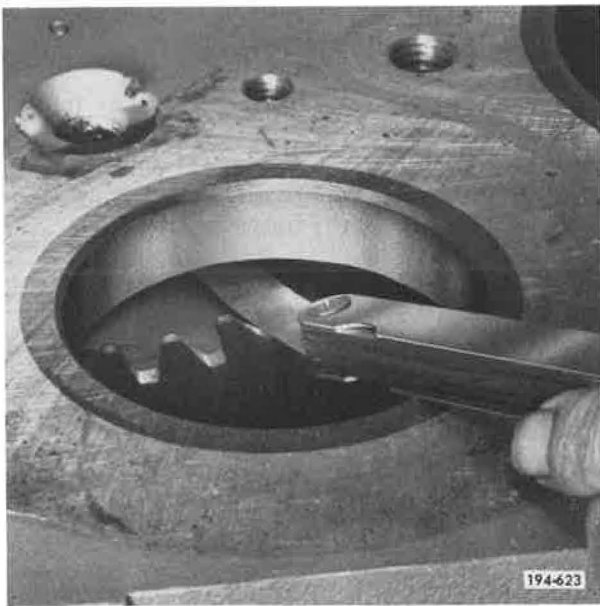

Figure 5-920. Measuring End Play
8. Measure reverse idler gear end play with a feeler gauge. See **Figure 5-920**. Refer to Torque and Tolerance Table, Item 20. If end play is not within tolerance, replace washers. If still not correct, replace reverse idler gear. If still not within tolerance, case must be replaced.